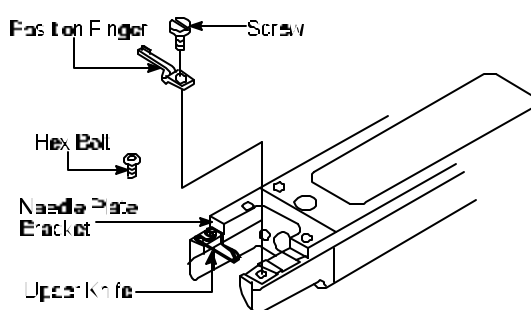

Figure 4
49. **Upper Knife** rests on Position Finger and back rests flush against Needle Plate Bracket. (**MK 4** Trimmers only apply) See Figure 4.